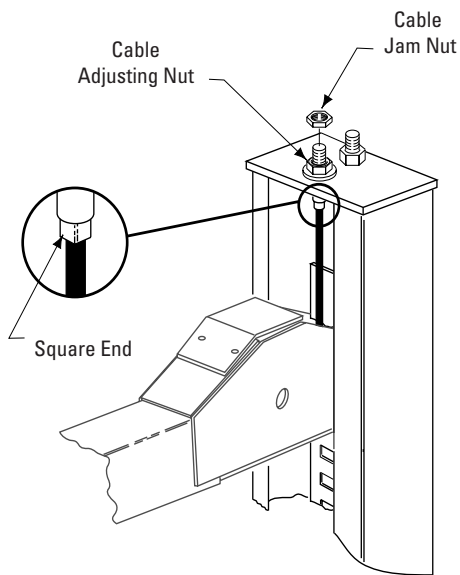

Fig. 27
1. Starting with the right front column: use a straight edge to mark the yoke height on the column, Fig. 27.
locking latch bar, adjust the cable stud. Loosen cable jam nut, Fig. 27, and turn adjusting nut to raise the locking latch 2" above bottom of latch bar slot. Tighten cable jam nut. Lower lift and remove vehicle.